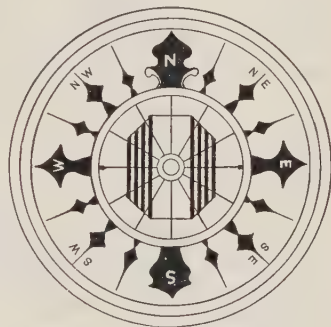
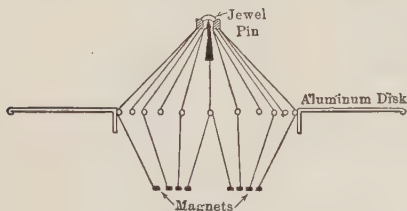

FIGURE 343.—MARINER'S COMPASS
FIGURE 344. — SIDE VIEW OF MARINER'S COMPASS.
**222. The Mariner's Compass.** — In compasses used for navigation (Figure 343), a card with the points of the compass engraved on it is attached by radial threads to a jeweled bearing resting on a pivot (Figure 344). In the threads are mounted a number of parallel magnetic needles shown as heavy black lines on either side of the pivot in Figure 343. The north point of the card in this compass would point to the magnetic north if it were not for the permanent magnetism of the steel of the ship and the inductive effect of the earth's field on the ship. To counterbalance the effects of